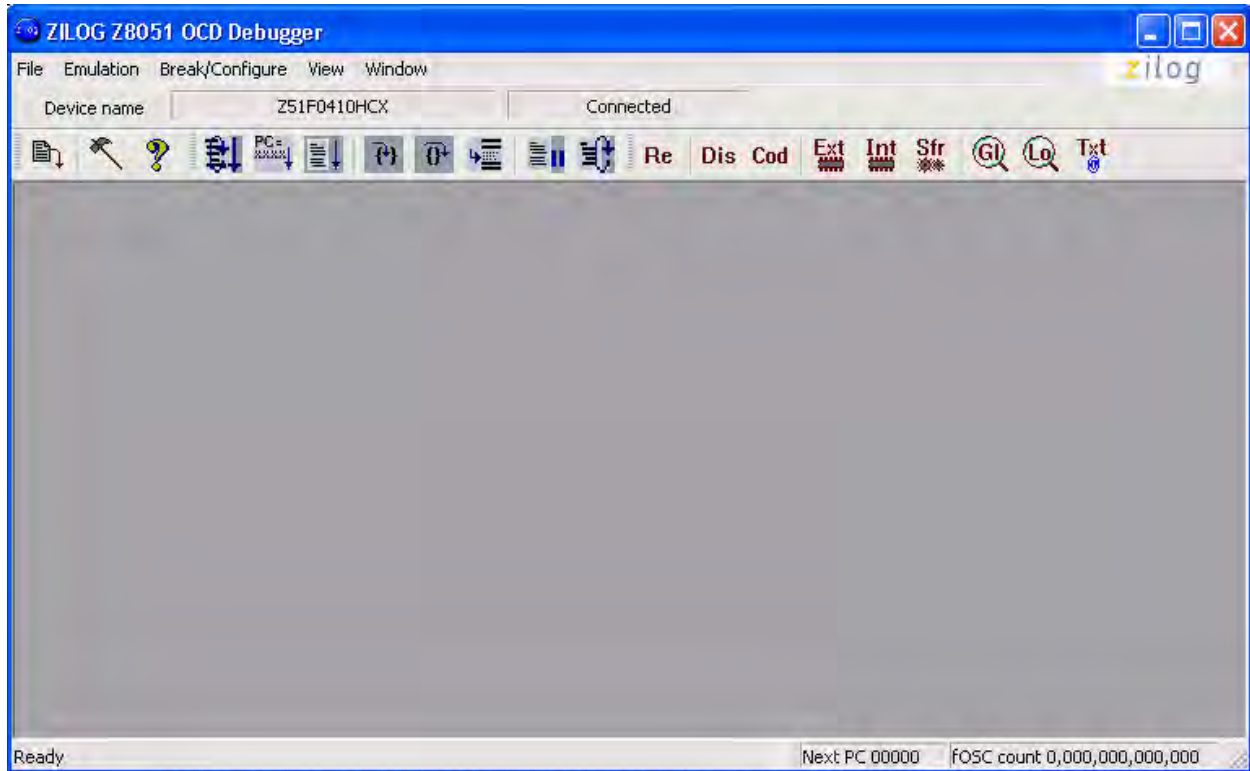
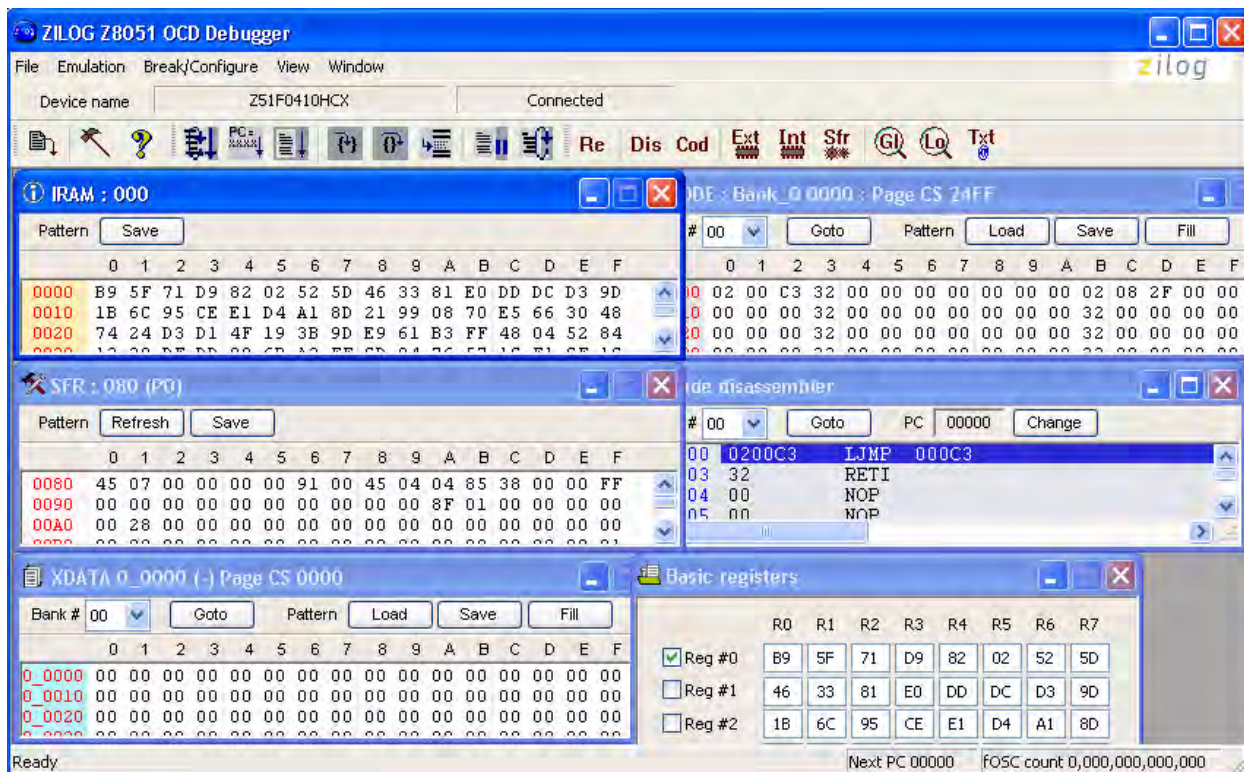

Figure 18. A Typical On-Chip Debugger Window
Figure 19. A Typical On-Chip Debugger with Child Windows Open
8. Click the **Write** button to open the On-Chip Debugger's main window. A typical OCD display is shown in Figure 18; Figure 19 shows an OCD window with child windows open.
► **Note:** Use the View menu to open the child windows. For this demonstration, the example windows shown in Figure 19 do not need to be opened.